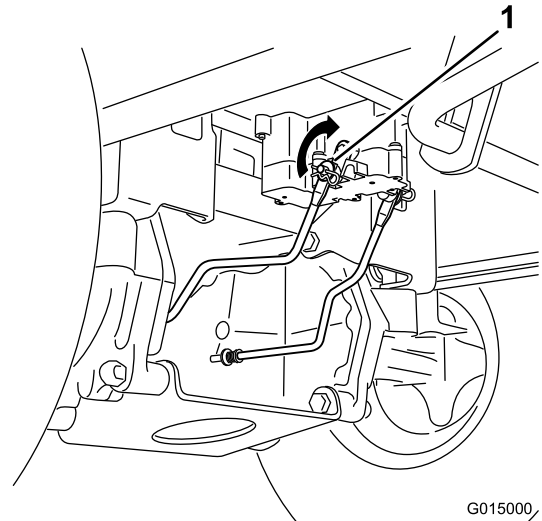

Figure 40
1. Locate the shaft on the electric brake where the brake-link arms are connected (Figure 40).